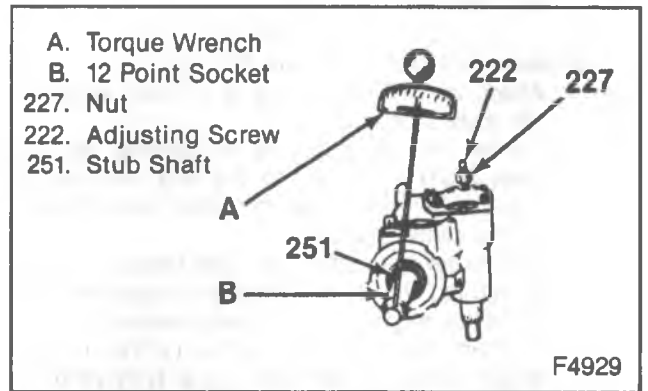

Figure 21—Aligning the Over-Center Preload
Adjust (Figure 21)
- Pitman shaft preload (figure 21).
2. Center the steering gear by turning the stub shaft (251) from right to left and counting the number of turns. Turn the shaft back halfway to the center position.
4. Tighten the adjusting screw (222) until the torque wrench reads 0.6 - 1.2 N·m (6-10 in. lbs.) higher than the reading noted in step "3."